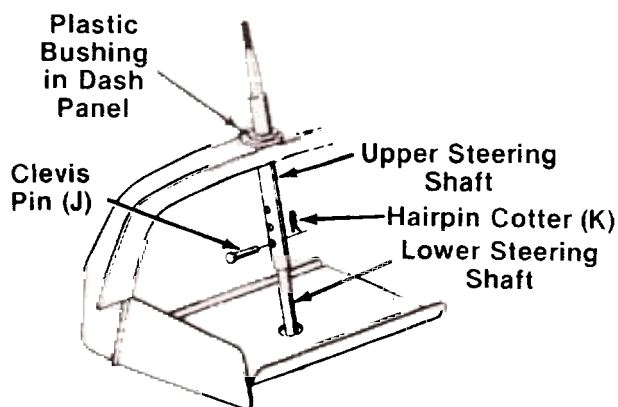

FIGURE 10.
1. For shipping purposes, the upper steering shaft is pushed all the way down over the lower steering shaft. Pull the upper steering shaft up. The three holes in the shaft provide three steering wheel heights. Select desired hole and secure with clevis pin (J) and hairpin cotter (K). See figure 10.